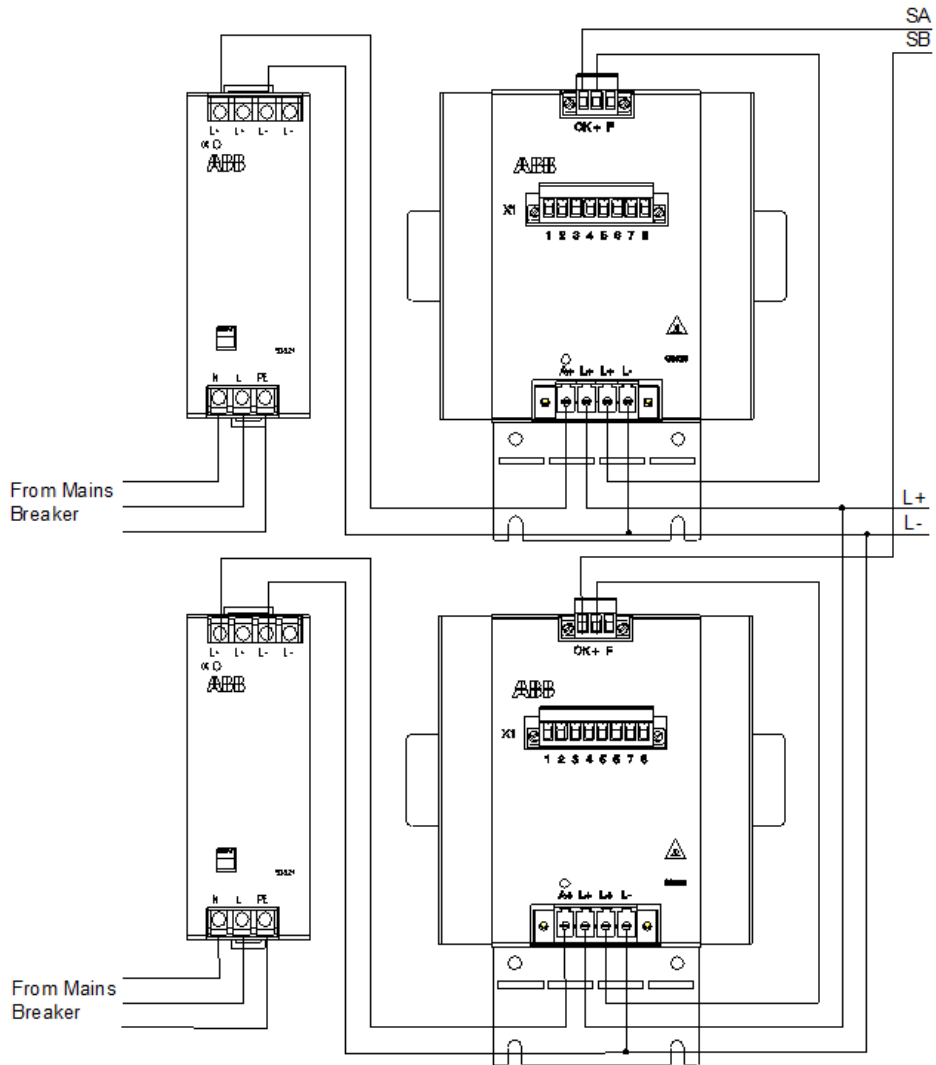
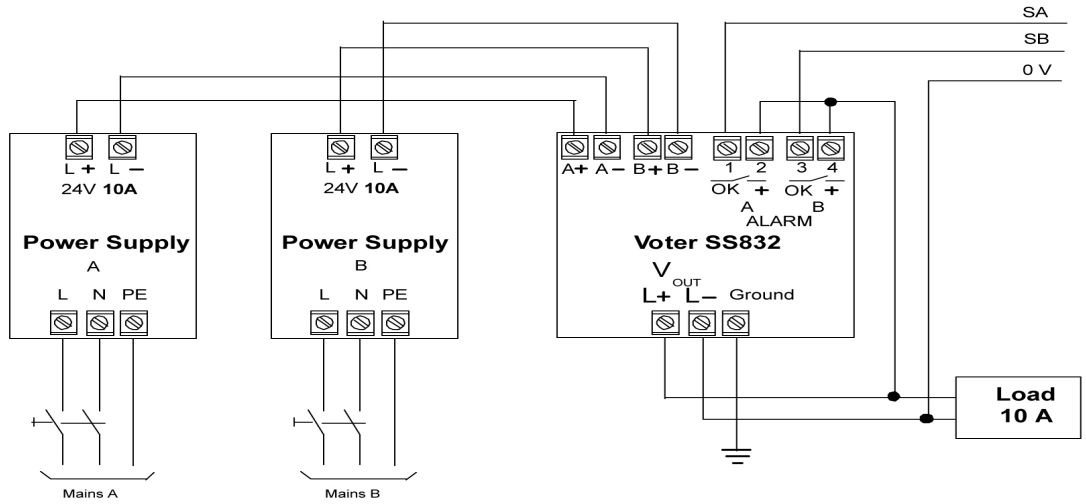
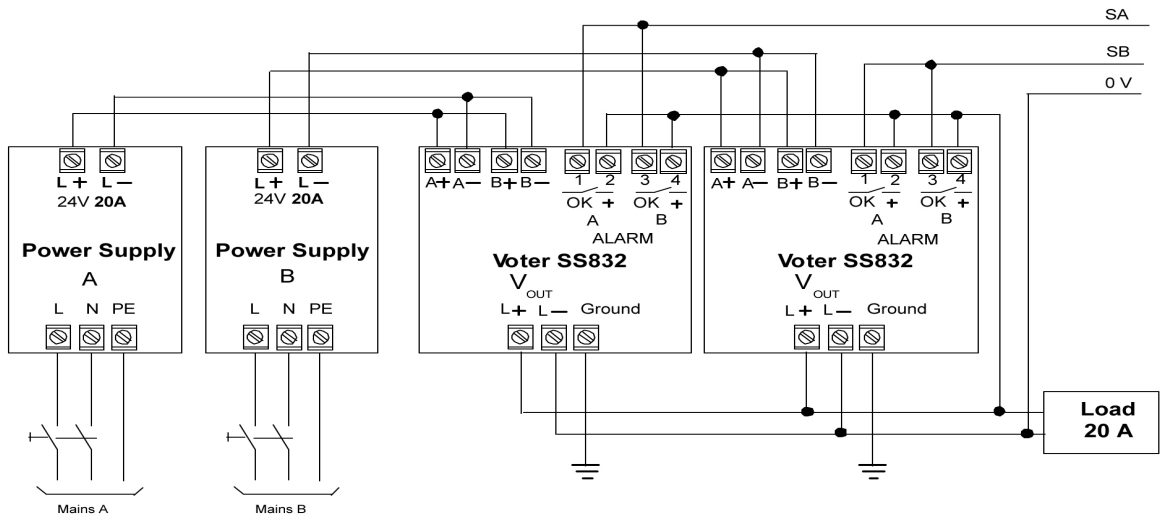

Figure 48. Redundant Power Supply for SS823
Figure 49. SS832 Redundant Configuration up to 10 A
Figure 50. SS832 Redundant Configuration up to 20 A
The SS8xx voting unit is used to connect two redundant power supplies to a common load. Depending on the system configuration requirements, the two redundant power supplies may be connected to completely separate mains supplies or to the same mains supply, as shown in Figure 48 on page 146 for SS823, Figure 49 on page 147, and Figure 50 on page 147 for SS832.
2. Connect the voting unit to the selected SD83x power supply units, in required configuration. See Figure 49 on page 147 and Figure 50 on page 147 for SS832.